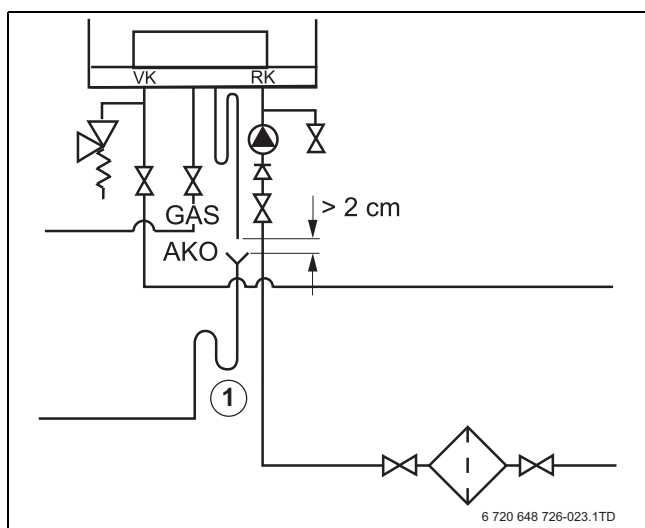
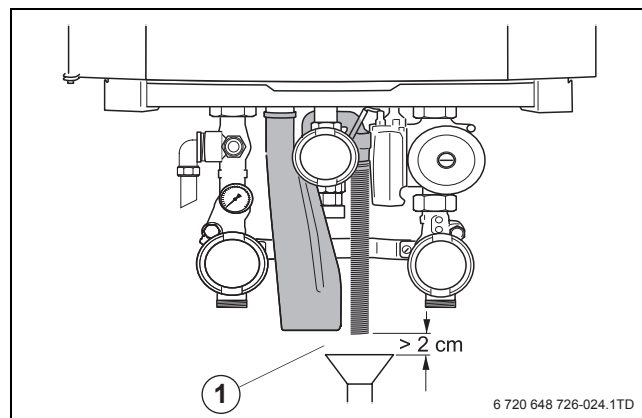

Fig. 23 Connecting the condensate trap
Fig. 24 Condensate drainage pipe
- Connect the condensate drain pipe to the condensate trap (→ fig. 23, [1] and fig. 24, [1]).